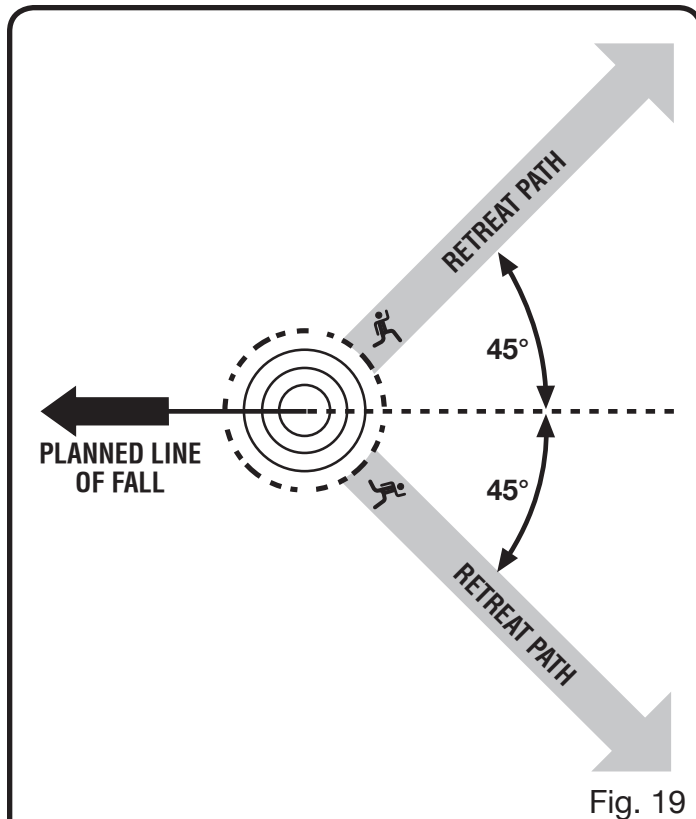

Fig. 19
See Figures 19 - 22.
- Before any cuts are started, pick your escape route (or routes in case the intended route is blocked); clear the immediate area around the tree and make sure there are no obstructions in your planned path of retreat. Clear paths of safe retreat should extend back and diagonally (45°) to the rear of the planned line of fall. When the tree begins to fall, you should retreat away from the direction of fall along a retreat path and at least 20 feet away from the trunk in case it kicks back over the stump. *See Figure 19.*